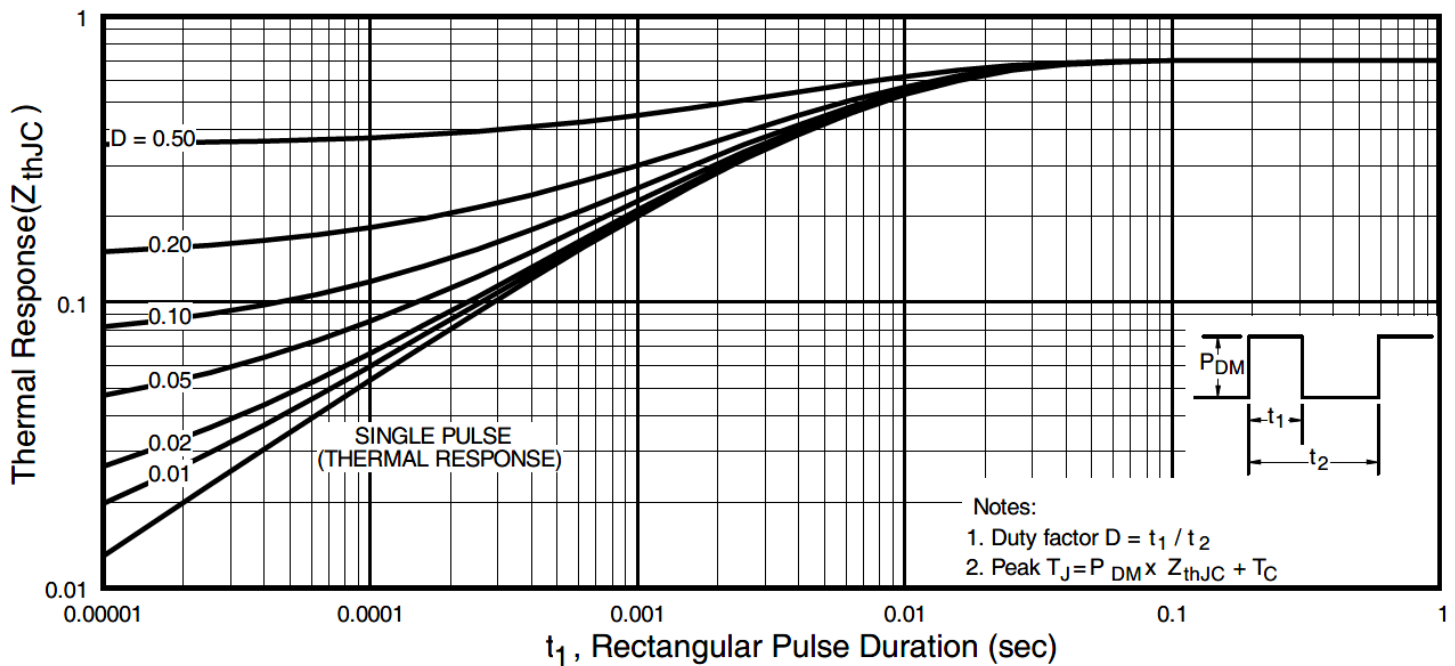

Fig 11. Maximum Effective Transient Thermal Impedance, Junction-to-Case
- ① Repetitive rating; pulse width limited by max. junction temperature. (See fig. 11).